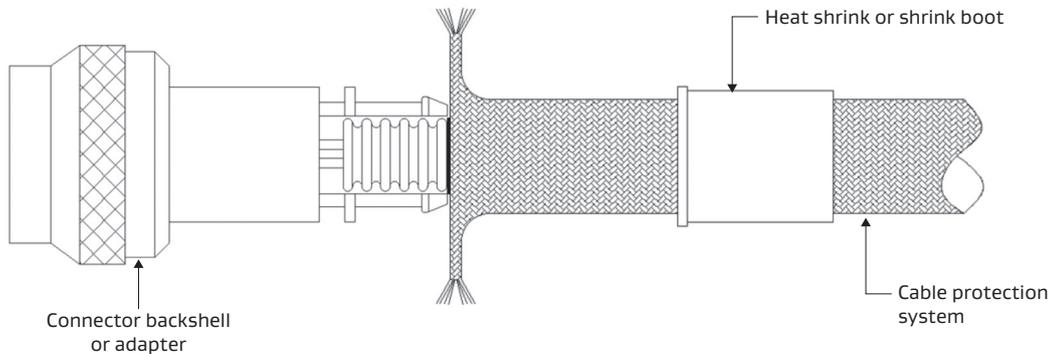

Figure 12: Sliding the connector backshell or adapter
- Slide and adjust the connector backshell or adapter onto the clear or black plastic tubing and stop when it meets the outer braided jacket (Figure 12).